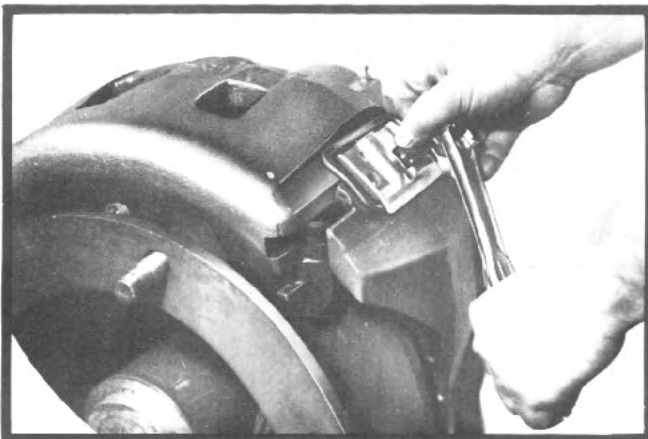

Fig. 21—Removing screws and caliper hold-down assembly.
(3) Remove the four (4) screws and remove caliper hold-down assembly. (Fig. 21)
(4) Install caliper assembly over the hub and rotor and position into grooves in torque plate.
(5) Install the caliper hold-down assemblies and tighten bolts to 40-ft-lbs. torque. (Fig. 21)
(6) Add brake fluid to bring level to  $\frac{1}{4}$ " from top of reservoir.
(7) If any hydraulic fluid lines have been disconnected, bleed the hydraulic brake system. Pump the brake pedal several times to make sure brake shoes are adjusted.
(8) Install the front wheels and lower vehicle